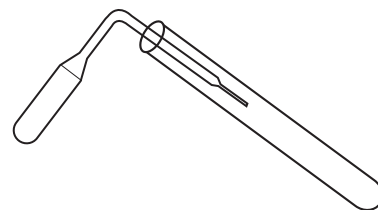

Figure 3.
15. Insert the stem of the pipet into the test tube about halfway and bend the stem so the bulb is below the mouth of the test tube (see Figure 3). *Caution:* Keep the hand holding the pipet bulb away from the mouth of the test tube.